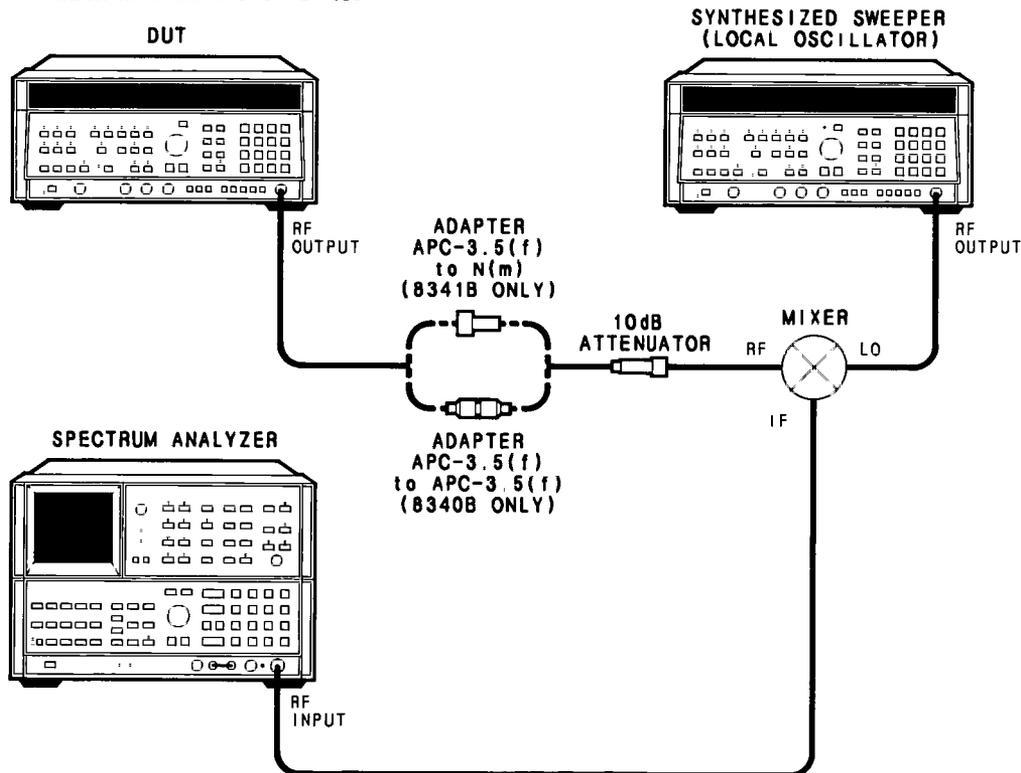

Figure 5-59. Leveled Squegging Test Setup
37. Connect equipment as shown in Figure 5-59. Connect the mixer LO input port directly to the LO RF output connector to obtain maximum mixer LO input level. Allow at least 30 minutes warm up time.